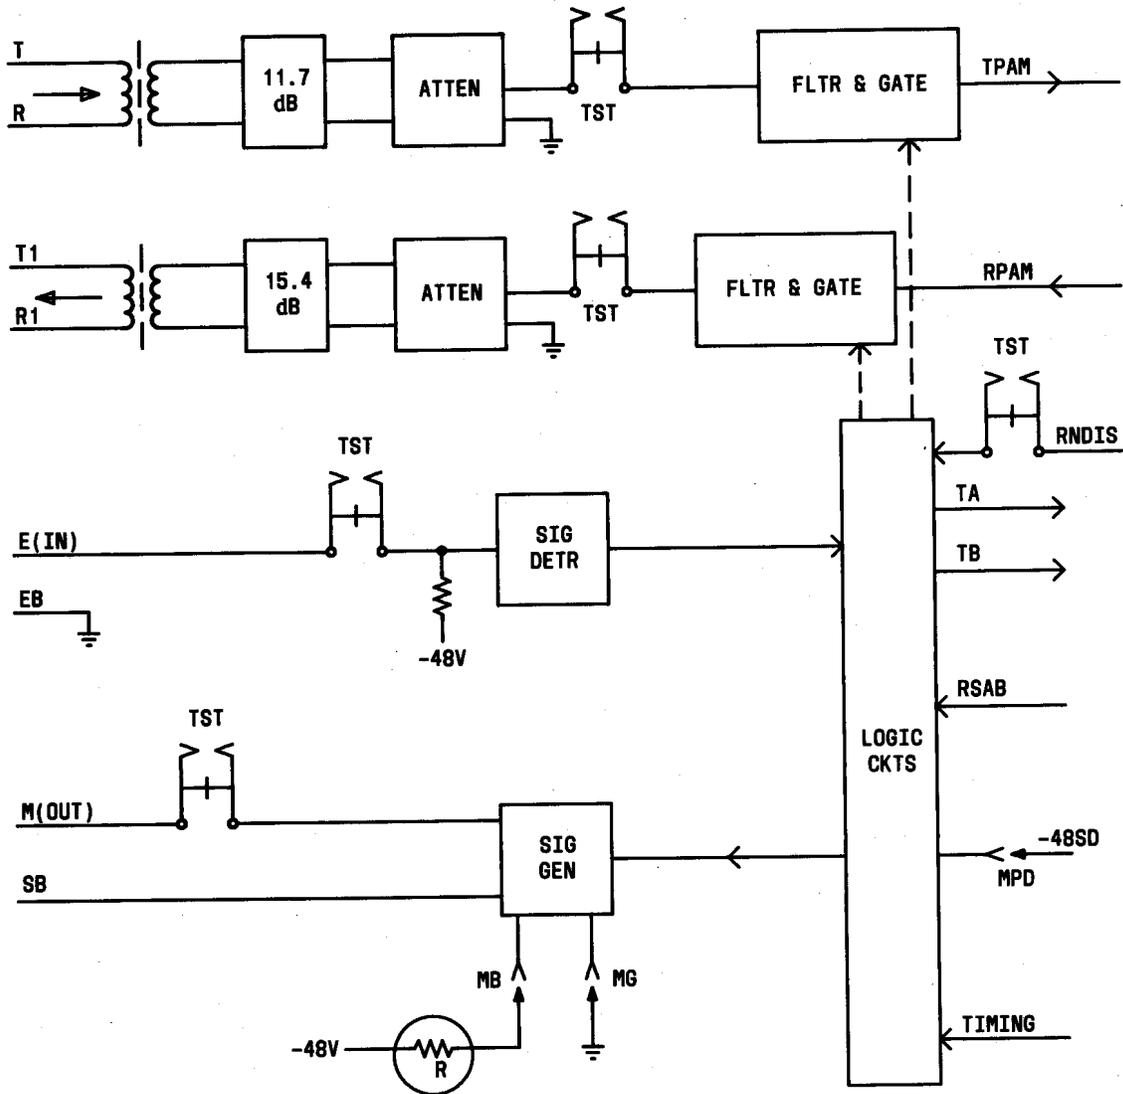

Fig. 4—PLR Block Diagram
2.05 Figure 4 is the block diagram of this unit. In both the transmit and receive paths are a transformer, a fixed pad, adjustable attenuator, TST jack contacts, and the active gates and filters. The transformers have 600-ohm windings connected to balanced circuits. The fixed pad and adjustable attenuator reduce the output from one channel to the input of the connecting channel and vice versa. Input and output signal ranges are controlled by the adjustable attenuators and recommended operating levels, as specified in Part 3. The TST jack contacts normally provide a through connection; but when a test cord is inserted, both the transmit and receive paths are opened and either the line or drop side can be accessed for testing. These test points are at a 600-ohm unbalanced impedance and are defined as -8.5 TLP transmit and +4.0 TLP receive.
2.07 This unit contains a signaling detector (transmitting) for the E lead and a signaling generator (receiving) for the M lead (Fig. 4). These lead designations are reversed from the input/output E&M convention; instead, the lead designations match the E&M channel unit leads to which they connect (Fig. 3A). The signaling detector controls the logic state applied to the TA common signaling bus to represent the two input dc conditions. Ground (off-hook) on the E lead produces a logic 0 on the bus and an open (on-hook) produces a logic 1. These logic states are inverted by the bank common equipment so that off-hook is represented by pulses on the T line and on-hook is represented by absence of pulses. The signaling generator produces a battery/ground signal on the M lead in response to the received signaling, a ground (on-hook) for a received logic 1, and battery (off-hook) for a logic 0. Battery is either supplied internally or externally (on SB lead) depending on the type of E&M interface. The EB lead supplies ground to the connecting E&M unit for a looped signaling interface. The ballast lamp in the M lead 48-volt supply is a self adjusting variable resistance. Two sets of TST jack contacts are wired in the E&M leads of the PLR allowing access to the line and drop sides.